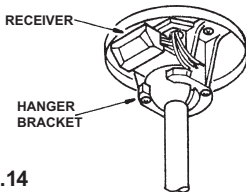

Fig.14
Step 1. Insert Receiver into Hanger Bracket with the flat side of the Receiver facing the ceiling. (Fig. 14)